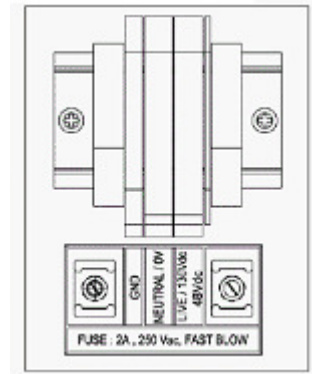

Fig. 8: Universal Power Input Terminal Block
**1.7.1** The Positron TeleLite OEI assemblies can be powered from either -48Vdc, 120Vac or 130Vdc, depending on site conditions. Feed the incoming power to the fused power input terminal block mounted on the assembly backboard. See Figure 8.